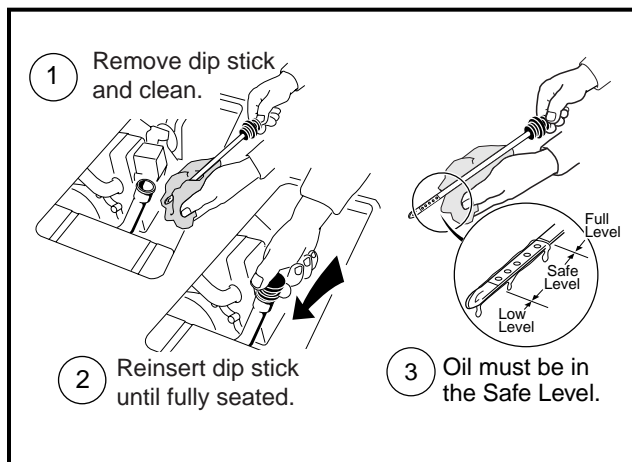

Figure 13-106 Check Engine Oil Level
15. Check engine oil level (**Figure 13-106, Page 13-48**).